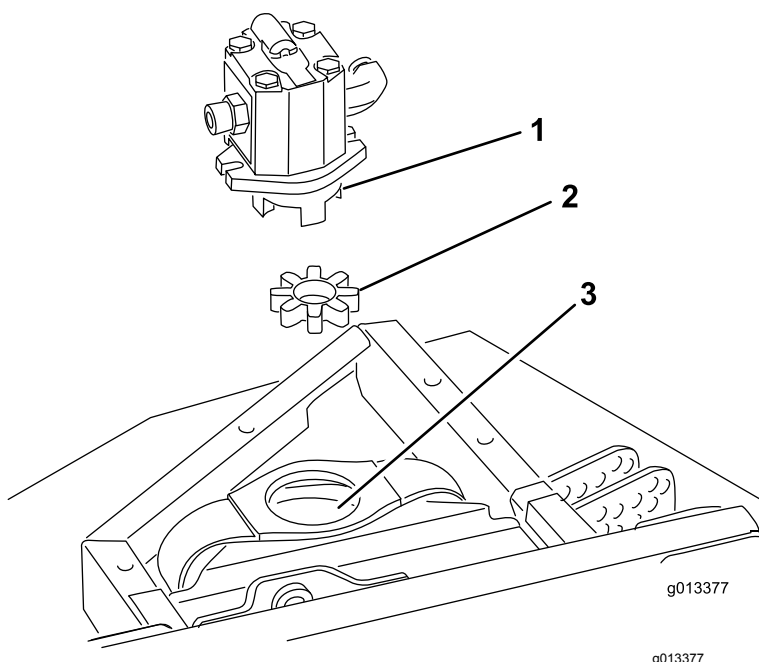

Figure 2
5. Remove the elastomeric spider from inside each pulley coupler. Retain it for installing on the new cutting unit (Figure 2).
Note: Inspect spider hub for wear and replace if it is worn (Figure 2).